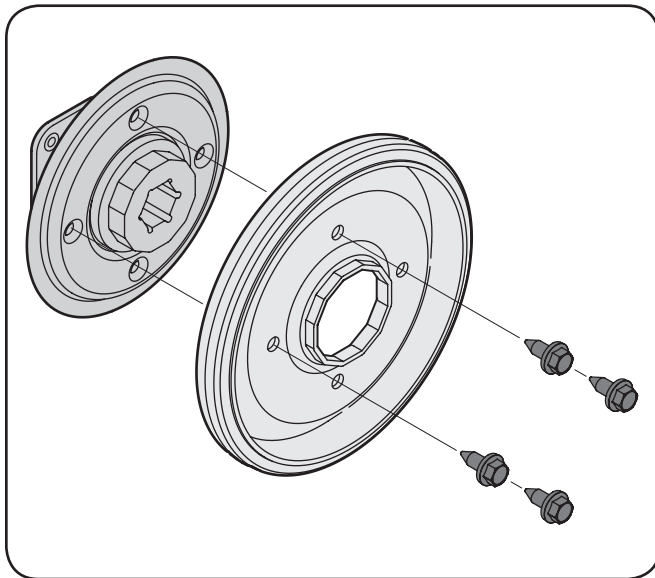

Figure 7-11
7. Remove four screws securing the friction wheel to the hub assembly, refer to Figure 7-11. Discard old friction wheel.
8. Reassemble the new friction wheel onto the hub assembly, tightening the four screws in rotation and with equal force. It is important to assemble the friction wheel symmetrically for proper functioning. Refer to Figure 7-11.